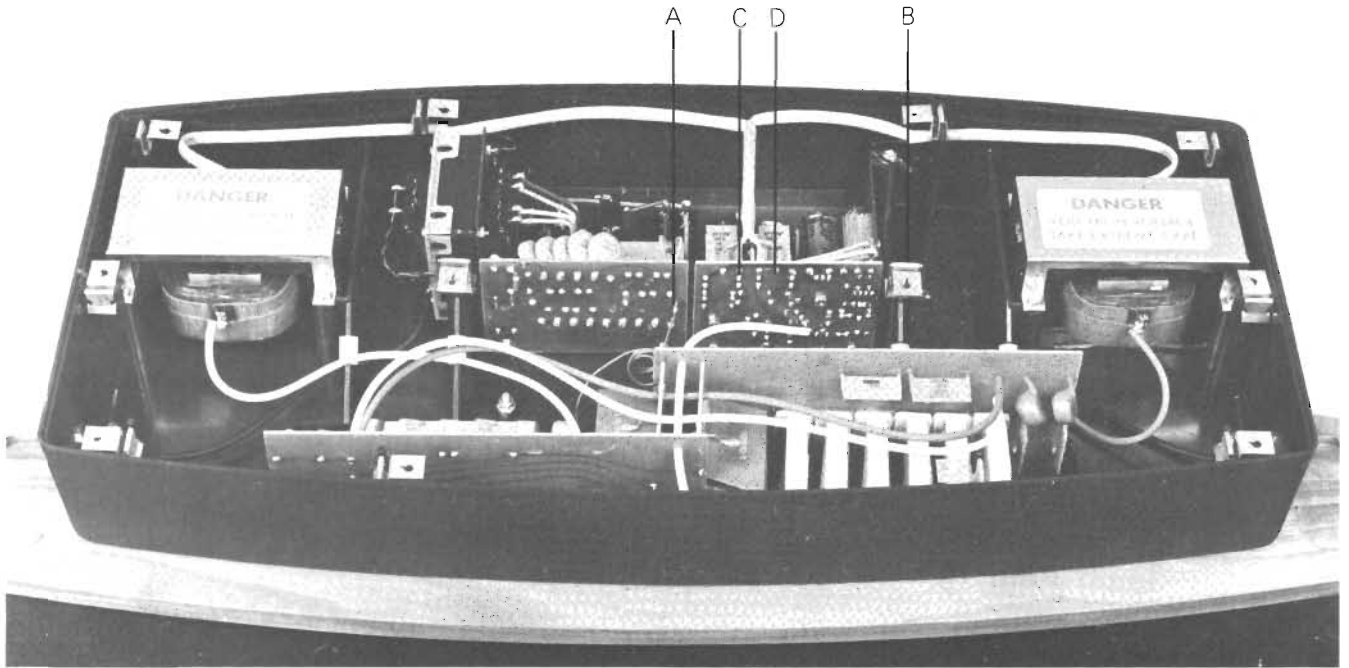

Fig. 5
Contact with the EHT path should be avoided both when the loudspeaker is connected to or recently disconnected from the AC supply volts. If the nature of the test being carried out necessitates contact the EHT should first be discharged by short circuiting point A (Fig. 5) to earth, with AC supply volts disconnected. In each of the following tests the loudspeaker is taken to be standing upright in its completed form unless otherwise stated.
Measure the volts across the points labelled A and B in Fig. 5 which should be between 5 and 5.3 kV.
- To check that the clamp circuit is functioning correctly, points C and D Fig. 5 should be connected to the input of the oscilloscope.